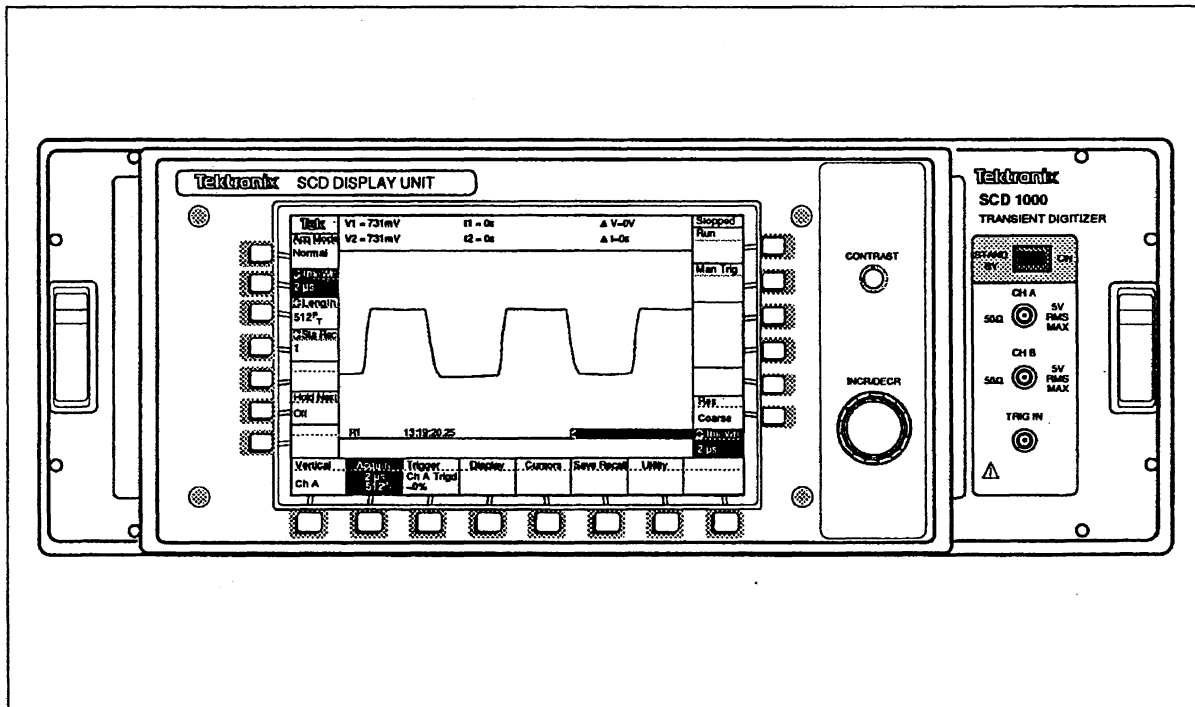

Figure A-2. SCD Display Unit
The Display Unit (DU) is a control and display device (Figure A-2). In addition to a high-resolution, 640 x 400 pixel liquid crystal display (LCD) panel, the DU contains dedicated control keys, programmable soft keys, and a variable knob.